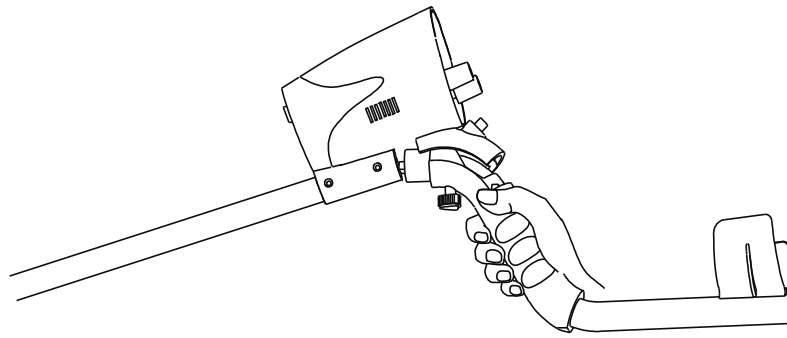

Figure.1
1. Align the rounded plastic part raised on the handle, with the rounded lower groove at the control box bottom (Figure.1). Push the two parts tightly.